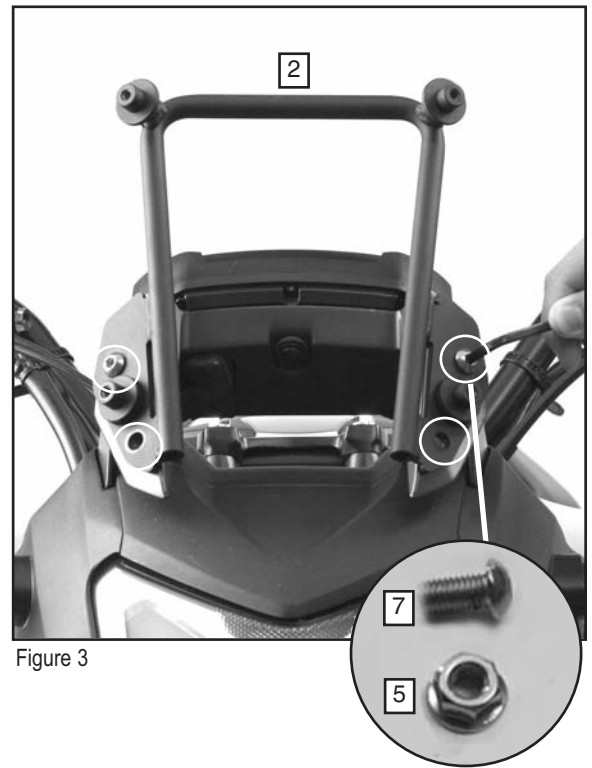

Figure 3
1. Place Bracket (2) in position over Frame. Attach Bracket at four points using a M8 Screw (7) and M8 Nut (5). **(5mm Hex and 13mm Box Wrench) Figure 3**
2. **Firmly Tighten the 4 Screws. (5mm Hex and 13mm Box Wrench) Figure 3**